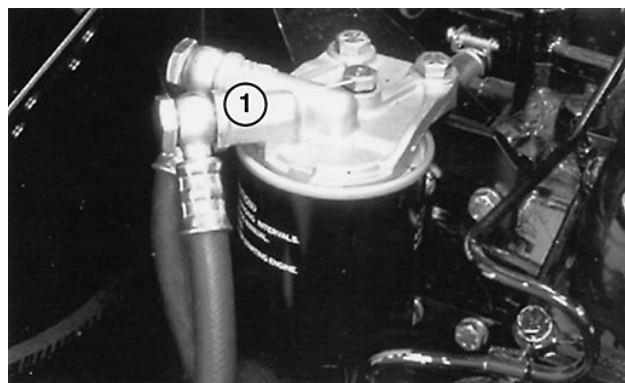

Figure 24
3. Loosen the air vent plug on the engine fuel filter assembly about 1-1/2 turns (Fig. 24).